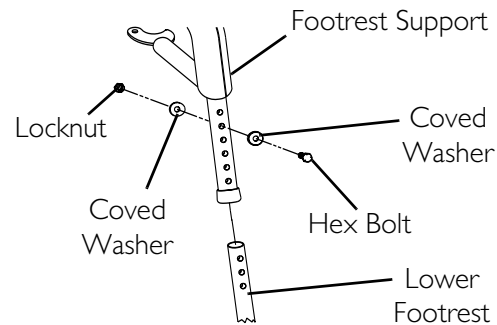

FIGURE 6.4 Footrest Height Adjustment - 70° and PW93
NOTE: For this procedure, refer to FIGURE 6.4.
3. Remove the mounting screw, washers and locknut that secure the lower footrest assembly to the upper footrest support (FIGURE 6.4).